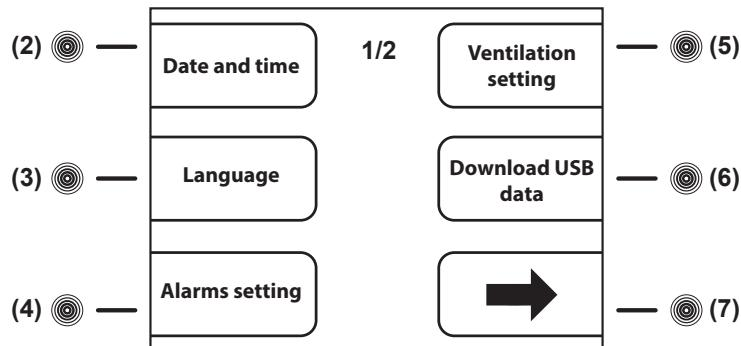
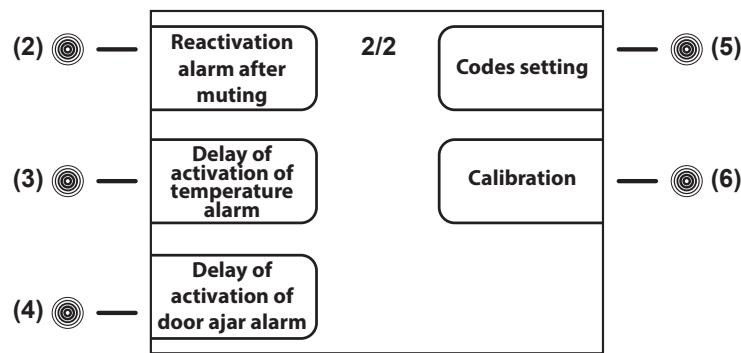
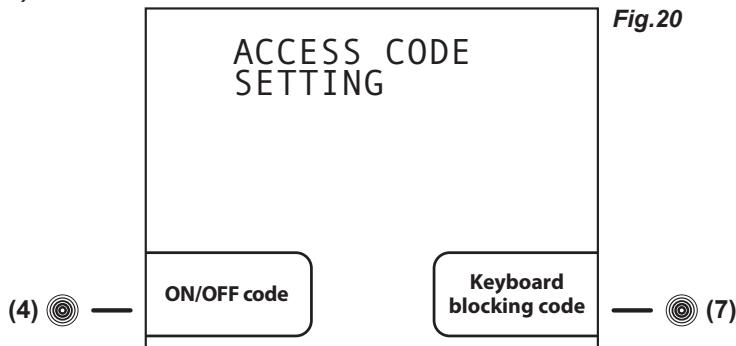

Fig.15
Fig.16
Fig.20
To access to the SETTING menu, press the **touch-button (7)** from the main menu screen-shot. The access is to the first page of the menu (*Fig.15*).
To access to the second page of the SETTING menu (*Fig.16*), press the **touch-button (7)→** from the first page of the SETTING menu (*Fig.15*).
- press the **touch-button (7)** to access to the setting menu (*Fig.15*)
- press the **touch-button (3)** to select the menu "Language"
- using the **touch-buttons (4)↑ and (7)↓** to set the desired language and then press the **ENTER touch-button (12)** to confirm the new settings
8.3.6.2 Alarm setting (touch-button (4) Fig.15)
To access to the ALARM SETTING menu, press the **touch-button (4)** while the display shows the first page of the setting menu (**Fig.15**).
- press the **touch-button (4)** to access to the screen-shot SETTING PRODUCT LOW TEMPERATURE ALARM
- press the **touch-button (4)-** and **(7)+** to set the desired value
- press the **touch-button (7)** to access to the screen-shot SETTING PRODUCT HIGH TEMPERATURE ALARM
- press the **ENTER touch-button (12)** to confirm the new setting and the **ESC touch-button (11)** to return back to the previous menu or **HOME touch-button (10)** to return back to the main screen-shot
8.3.6.3 Ventilation setting (touch-button (5) Fig.15)
To access to the VENTILATION SETTING, press the **touch-button (5)** while the display shows the first page of the setting menu (**Fig.15**).
- press the **touch-button (4)-** and **(7)+** to select among the 3 levels of ventilation available:
8.3.6.4 Download USB data (touch-button (6) Fig.15)
- To access to the DOWNLOAD USB DATA menu, press the **touch-button (6)** while the display shows the first page of the setting menu (**Fig.15**)
- press the **touch-button (5)↑** and **(6)↓** to scroll among the list of the possible data to download
- press the **touch-button (4)-** to clear the data (at the right of the display in correspondence of the data appears "no") or press the **touch-button (7)+** to select the data (at the right of the display in correspondence of the data appears "yes")
- press the **ENTER touch-button (12)** to confirm and enter in the Download USB screen-shot
- press the **ENTER touch-button (12)** to confirm and enter in the DATE AND TIME
- repeat the last 2 operations for all the numerical values in both calendar and clock, then press the **ENTER touch-button (12)** to confirm the details and process the download or the **ESC touch-button (11)** to return back to the previous menu
8.3.6.5 Reactivation alarm after muting (touch-button (2) Fig.16)
To access to the REACTIVATION ALARM AFTER MUTING, press the **touch-button (2)** while the display shows the second page of the setting menu (**Fig.16**).
- press the **touch-button (4)-** and **(7)+** to set the desired value (expressed in seconds, max. 900) that has to pass from the automatic reactivation of the acoustic alarm after the acoustic alarm signalling has been muted. The reactivation only works in case the alarm condition persists. If set the value "0", the reactivation is disabled
8.3.6.6 Temperature alarm activation delay (touch-button (3) Fig.16)
To access to the DELAY OF ACTIVATION OF TEMPERATURE ALARM, press the **touch-button (3)** while the display shows the second page of the setting menu (**Fig.16**).
- press the **touch-button (4)-** and **(7)+** to set the desired value (expressed in seconds, max. 900) that has to pass from the starting of the alarm condition of a temperature alarm till its signalling on the display and through the buzzer
8.3.6.7 Door ajar alarm activation delay (touch-button (4) Fig.16)
To access to the DELAY OF ACTIVATION OF DOOR AJAR ALARM, press the **touch-button (4)** while the display shows the second page of the setting menu (**Fig.16**).
- press the **touch-button (4)-** and **(7)+** to set the desired value (expressed in seconds, max. 600) that has to pass from the opening of the door till its signalling on the display and through the buzzer